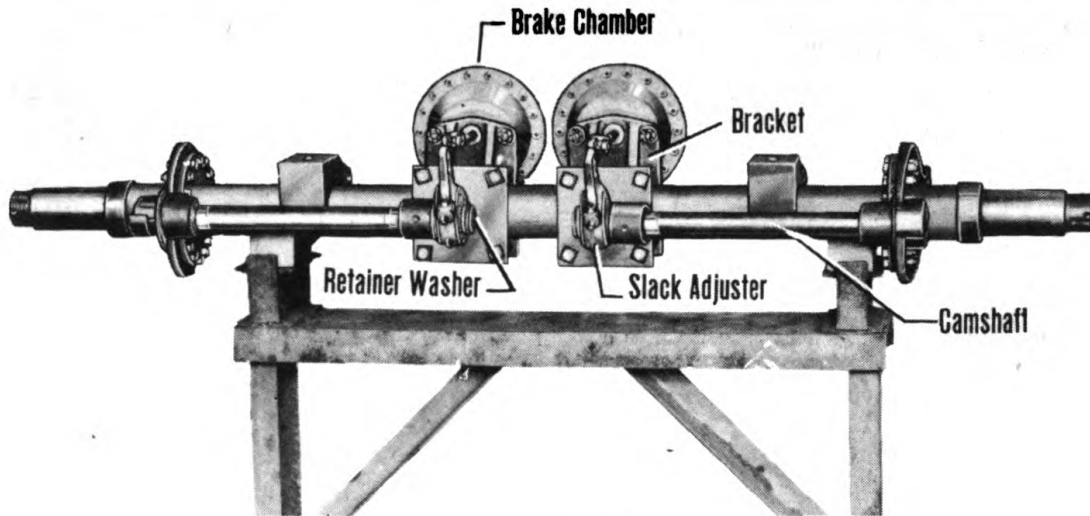

Figure 18—Front Axle, with Brake Shoes Removed
18. Remove the screw from each slack adjuster retainer washer (figure 18), and slip off the retainer washers; tap the slack adjuster from the end of the camshaft.